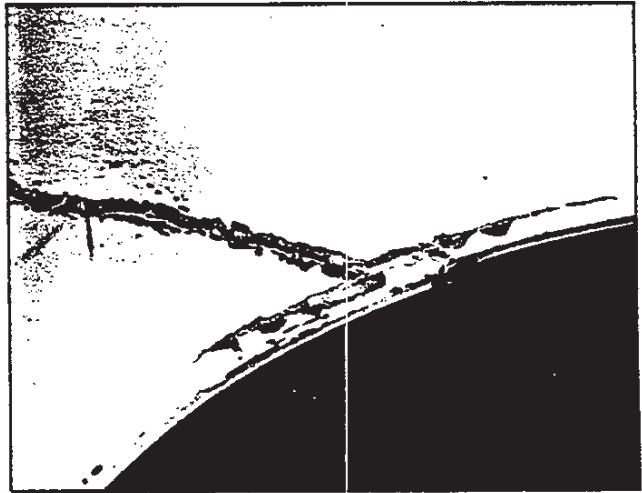

Fig. 58—Typical Cracked Panel
1. In the case of a cracked panel, such as shown in Figure 58, cut along the break line with a hacksaw blade and remove broken portion of the panel.